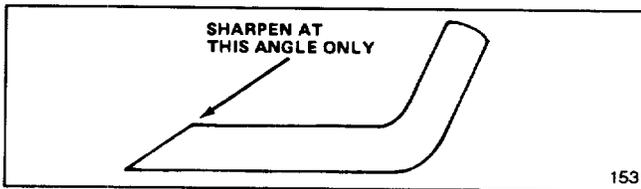

Figure 21
6. SHARPENING BLADE—Using a file, sharpen top side of blade and maintain original cutting angle (Fig. 21). The blade will remain balanced if same amount of material is removed from both cutting edges.